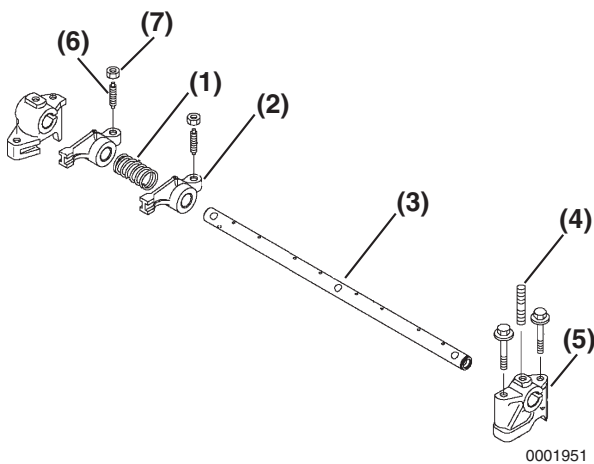

Figure 6-34
1. Lubricate the rocker arm shaft. Slide the rocker arm supports (**Figure 6-34, (5)**), springs (**Figure 6-34, (1)**) and rocker arms (**Figure 6-34, (2)**) onto the shaft.
Note: To properly align the rocker arm shaft with the rocker arm shaft supports, first reinstall a rocker arm support (**Figure 6-34, (5)**) having a hole for the shaft alignment stud (**Figure 6-34, (4)**). Align the hole in the rocker arm shaft and the hole in the rocker arm support. Reinstall the alignment stud.
Note: **Figure 6-34** shows components for one cylinder. Components for all remaining cylinders are assembled in the same order.
3. If removed, reinstall the valve adjusting screws (**Figure 6-34, (6)**) and the lock the nuts (**Figure 6-34, (7)**).